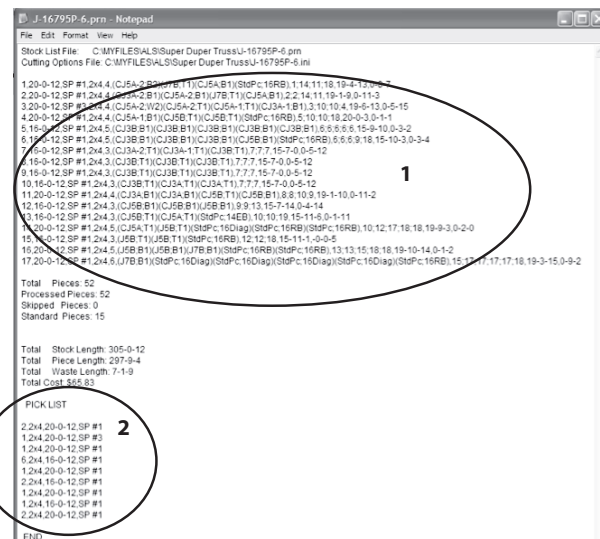

Figure 51
- If the Pick List w/Cut Details are checked under Program Options (Section 3.7.5), the file will also contain details about each piece of stock that will be cut. Each line contains the stock length, lumber description, lumber size, and information about the pieces placed on each stock piece. The file is stored as comma delimited, allowing it to be imported by a spreadsheet software. Figure 51 shows an example of the complete file with Stock File Details, Summary, and Pick List.